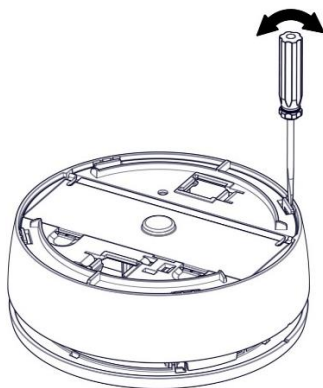

Figure 14
3. Using a screwdriver, press the 4 tabs and remove the detector housing (*see Figure 14*).